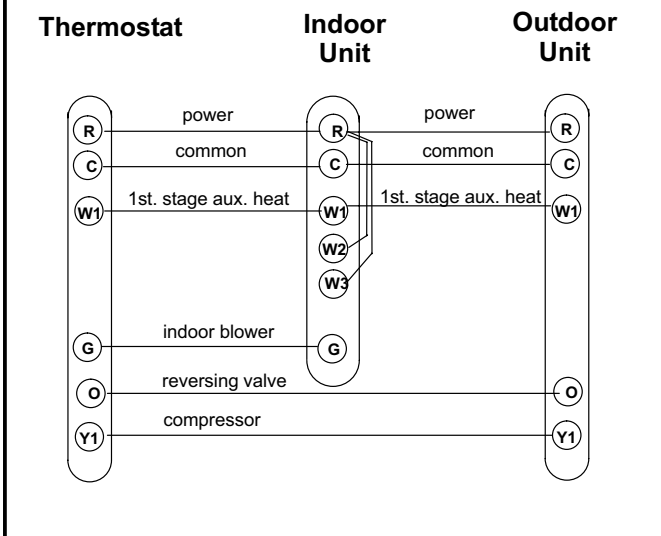

Figure 6
4. Install voltage wiring from outdoor to indoor unit and from thermostat to indoor unit. See figures 6 and 7.